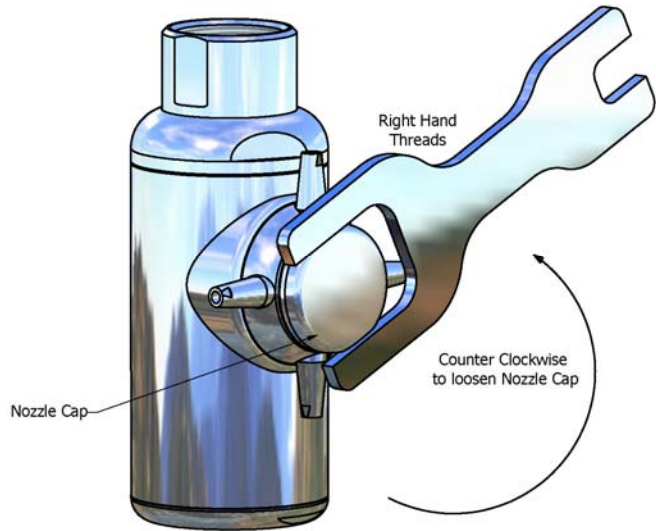

Figure 17
2. Remove position 28 from position 15 using spanner wrench (see Figure 28) and by turning counterclockwise (this is a right-hand thread) until removed; see Figure 17 for additional information.